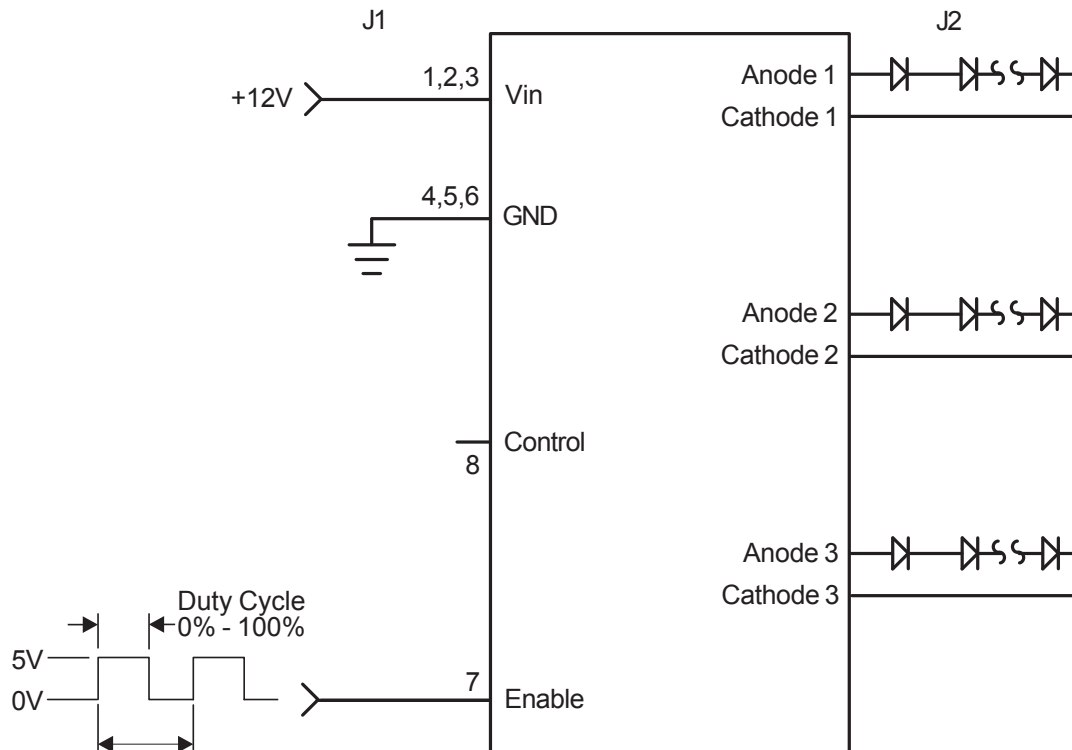

Figure 2
- OPERATION: External PWM configuration as shown in Figure 2 allows the user to control display brightness with an externally generated PWM signal. The user is responsible to provide the PWM signal. A minimum pulse width of 80 $\mu$ s is possible with this configuration.